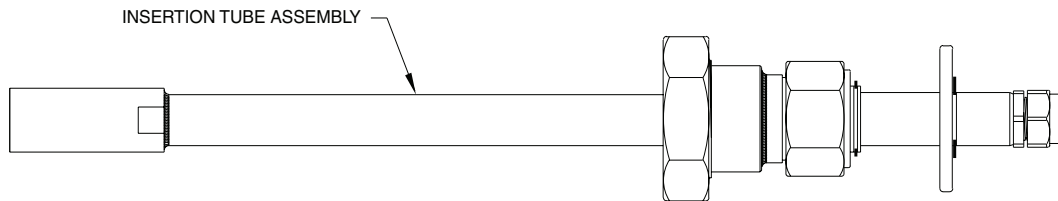

Figure 18. Insertion Tube Assembly
1. Loosen the chamber nut and remove the insertion tube assembly as shown in Figure 18.